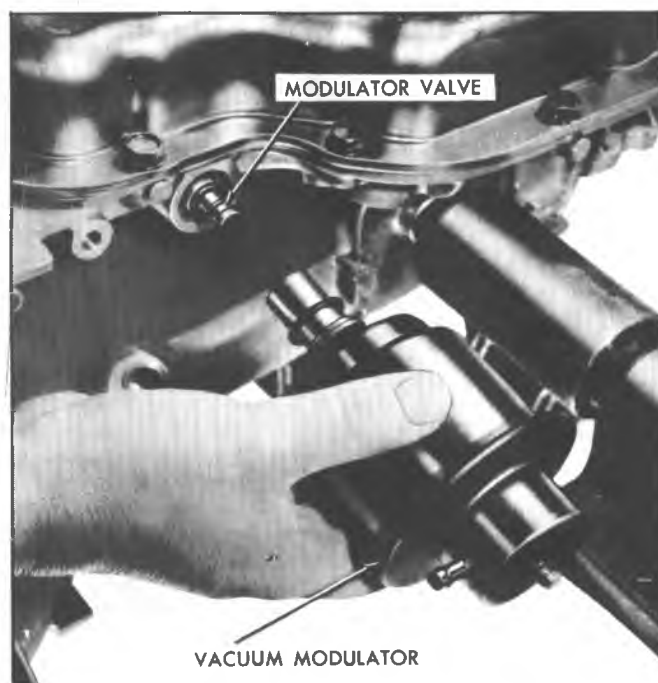

Fig. 7A-4C--Removing Vacuum Modulator and Valve
4. Remove modulator assembly attaching screw and retainer (Fig. 7A-3C).